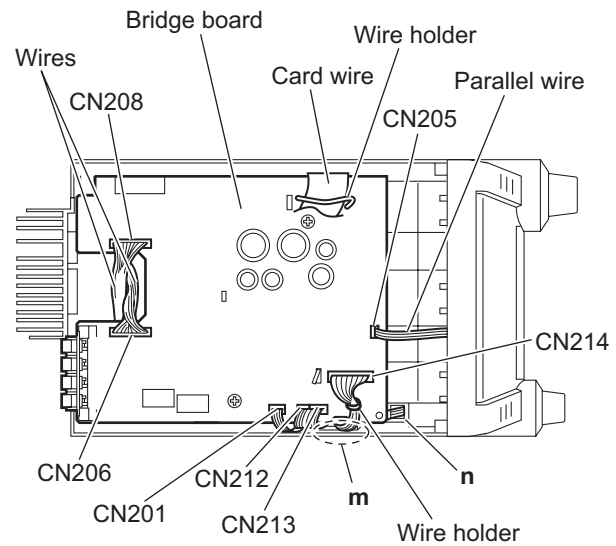

Fig.19
### 3.1.10 Removing the bridge board (See Figs.19 and 20)
- (1) From the top side of the main body, release the wire holder bundling the wire. (See Fig.19.)
- (2) Disconnect the wires from the connectors (CN206, CN208, CN214) on the bridge board. (See Fig.19.)
After connecting the wire to the connector CN214, fix the wire with the wire holder. (See Fig.19.)
- (3) Disconnect the parallel wires from the connectors (CN201, CN205, CN212, CN213) on the bridge board. (See Fig.19.)
- (4) Release the wire holder holding the card wire. (See Fig.19.)
- (5) Remove the spacer fixing the wire on the bridge board. (See Fig.19.)
- When reassembling, pass the wires through the sections (**m**, **n**) of the plastic chassis. (See Fig.19.)
### 3.1.12 Removing the primary board (See Figs.19, 21, 22, 24 and 25)
- (3) Disconnect the parallel wires from the connectors (CN201, CN205, CN213) on the bridge board. (See Fig.19.)